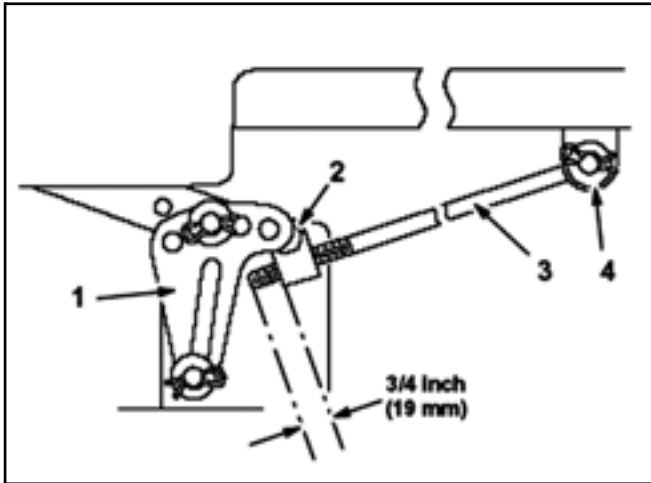

Figure 105
5. Measure the length of the rod extending out of the adjusting block on the sides of the chassis (Figure 105).
6. If the rod length is **not** a 3/4 inch (19 mm), remove the hairpin cotter and washer from the end of the adjusting rod (Figure 105) and turn the rod until the 3/4 inch (19 mm) dimension is obtained.